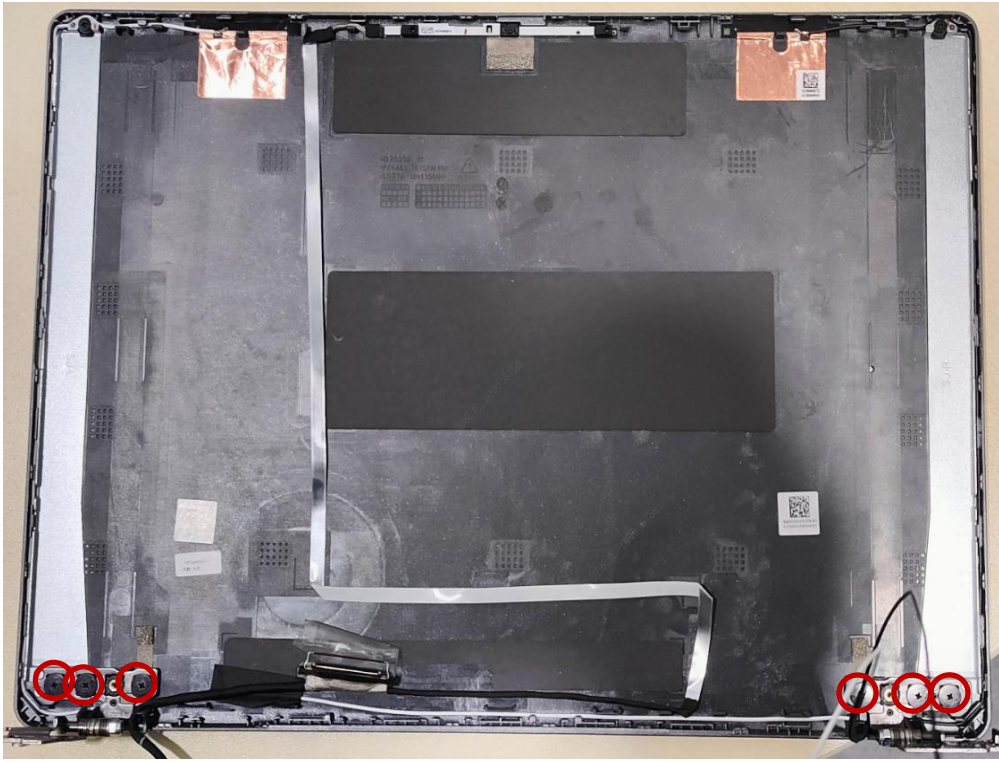

Figure 3-57. Replacing the LCD Hinges
3. Install six (6) screws to secure the LCD hinges in place (Figure 3-57).
4. Install two (2) screws to secure the LCD hinges CAP in place (Figure 3-57).